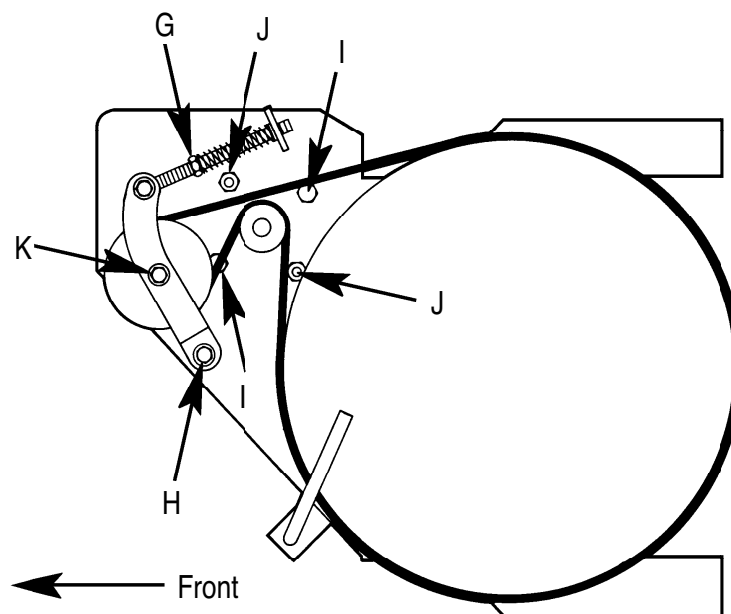

FIGURE 6
- 6 See Figure 6. Turn nut “G” counterclockwise to loosen the belt tension.